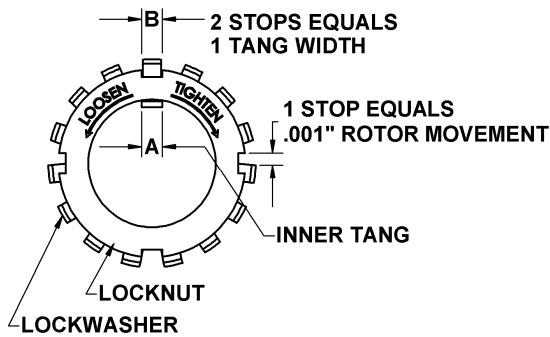

Figure 7 – Locknut Assembly
It is important that the bearing locknuts (24A) and lockwashers (24B) be installed and adjusted properly. Overtightening locknuts can cause bearing failure or a broken lockwasher tang. Loose locknuts will allow the rotor to shift against the discs (71), causing wear. See Figure 7.
- Tighten both locknuts (24B) to ensure that the bearings (24) are bottomed in the head recess. DO NOT overtighten and bend or shear the lockwasher inner tang.
- Tighten the opposite locknut (24A) by hand until it is snug against the bearing (24). Then, using a spanner wrench, tighten the nut the width of one lockwasher tang "B". Tighten just past the desired tang, then back off the nut to align the tang with the locknut slot. Secure the nut by bending the aligned lockwasher tang into the slot in the locknut. The pump should continue to turn freely when rotated by hand.
16. Inspect the grease seal (104) for wear or damage and replace as required. Grease the outside diameter of the grease seal and push it into the inboard bearing cover (27) or motor adaptor (108) with the lip of the seal inward (towards the pump).
- Attach a new bearing cover gasket (26) and the inboard bearing cover (27) to the inboard head (20). Install the outboard bearing cover (27A) and a new gasket to the outboard head. Make sure the grease fittings (76) on the bearing covers are accessible. Install and torque the bearing cover capscrews (28) to 8 lbs ft (10.8 Nm).
- On flange mounted pumps, the motor adaptor takes the place of the inboard bearing cover (27). To attach the motor adaptor to the head, install a new bearing cover gasket (26) and the four mounting screws (28A).